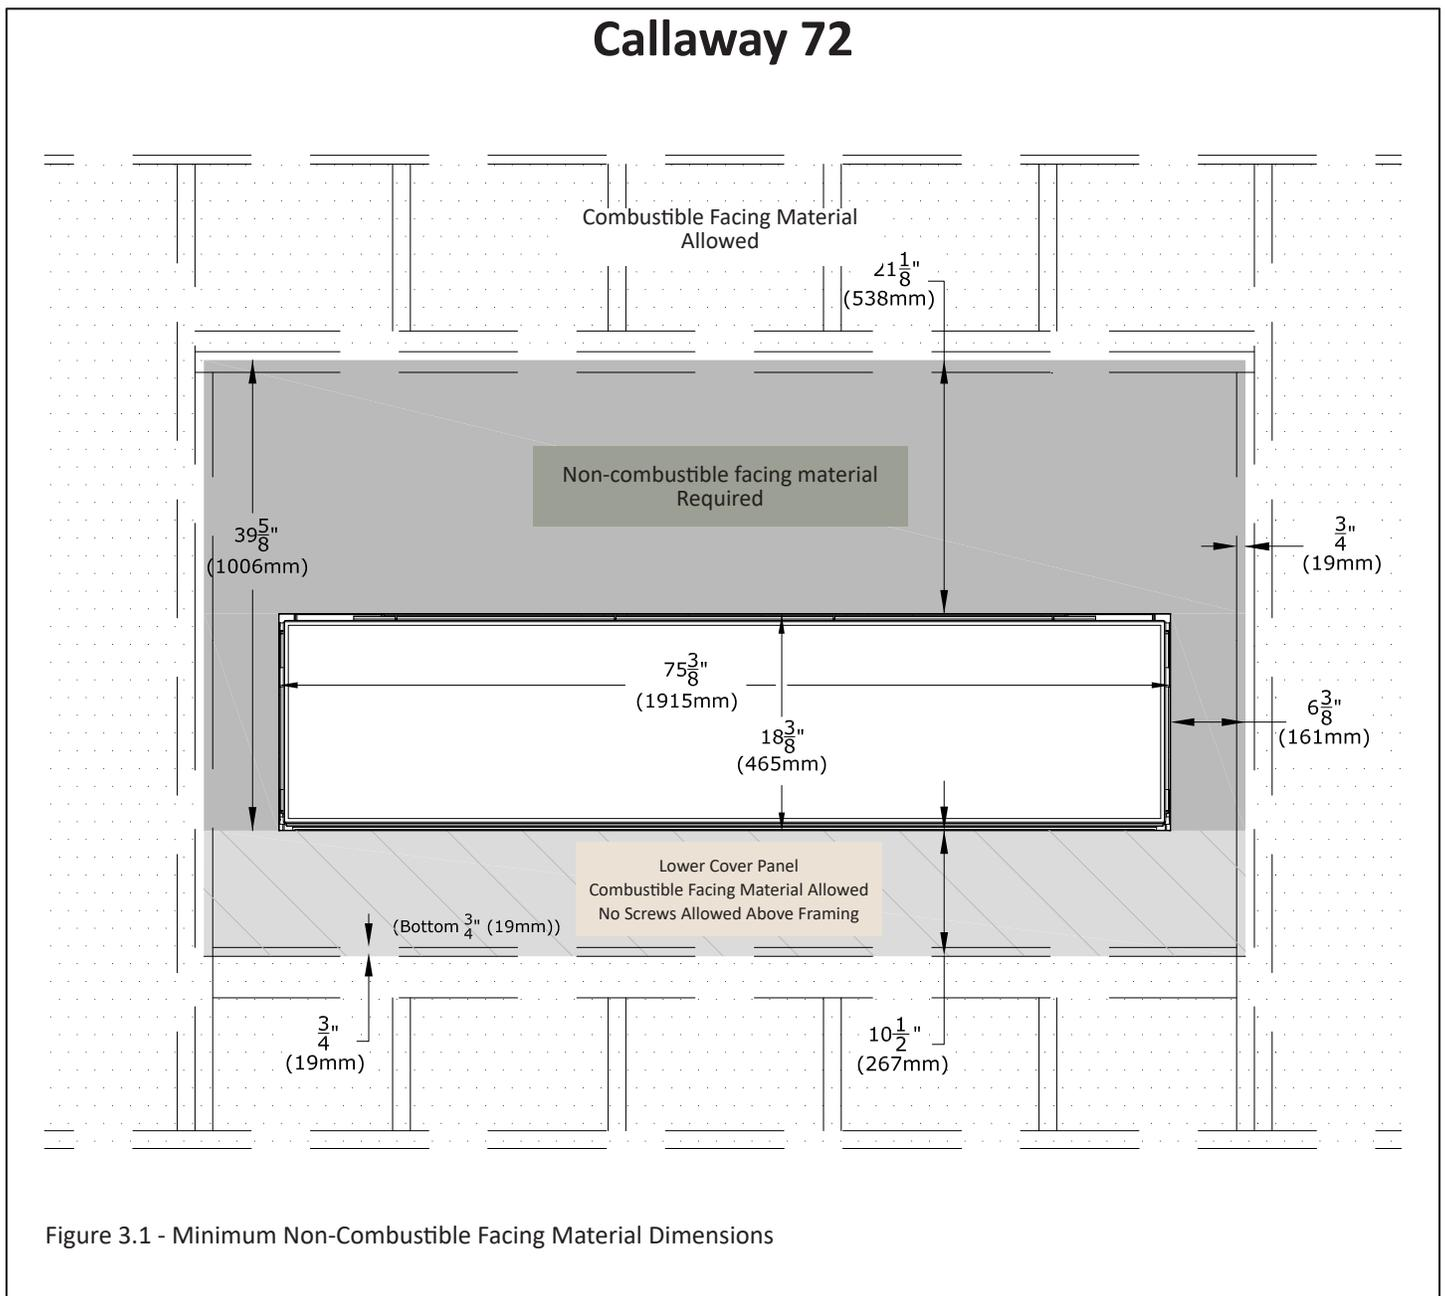

Figure 3.1 - Minimum Non-Combustible Facing Material Dimensions
Figure 3.1 and Figure 3.2 show the non-combustible facing material requirements.
- Figure 3.1 and 3.3 (Callaway 72) and Figure 3.2 (Bellingham 52) show the Non-Combustible Finishing Zone for the minimum requirement of noncombustible facing material.